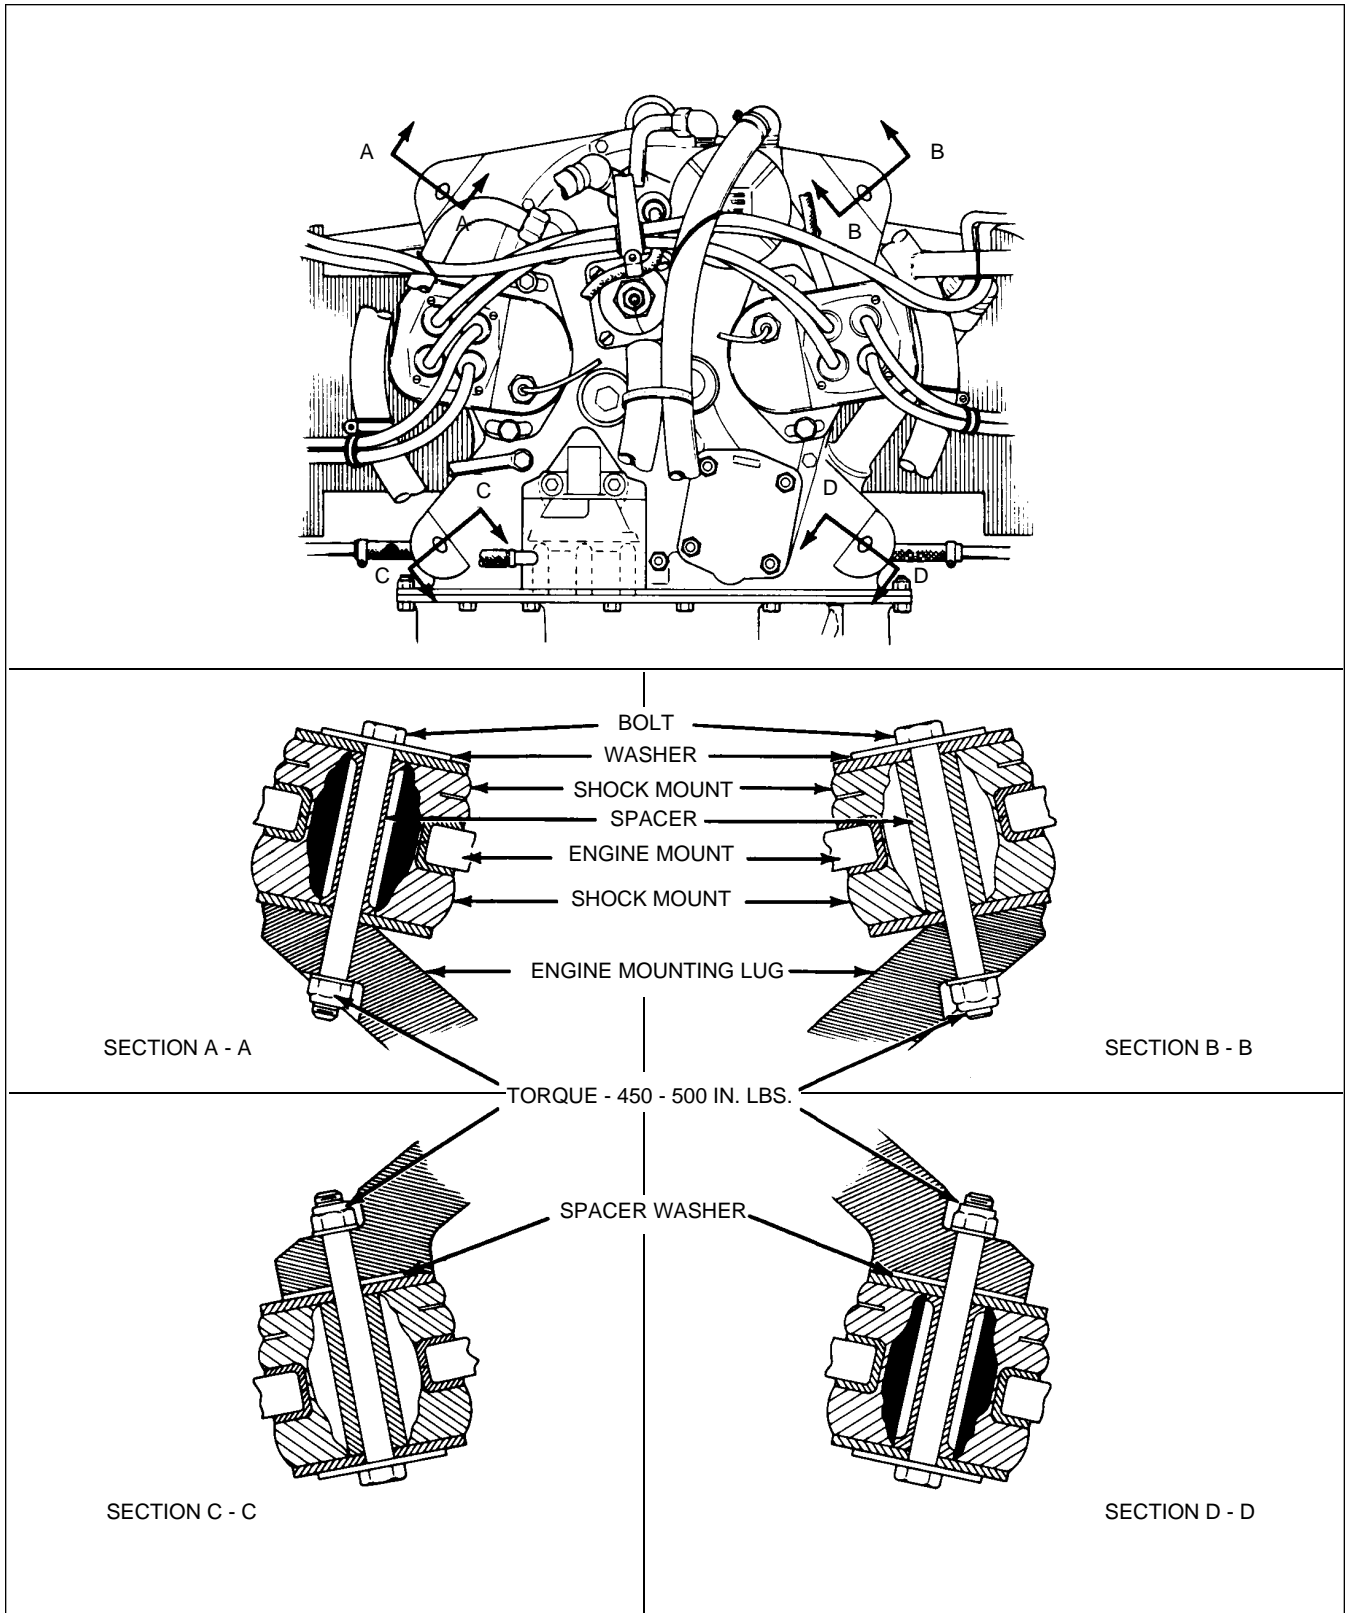

Figure 8-4 Engine Shock Mount Installation
- c. Assemble the engine shock mounts as shown in Figure 8-4. Note the position of each mount carefully. The upper right and lower left mounts are installed the same. The upper left and lower right are installed the same.
8-13. INSTALLATION OF ENGINE SHOCK MOUNTS. (Refer to Figure 8-4.)
- a. Assemble the engine shock mounts on the engine mount as shown in Figure 8-4. Note the position of each mount carefully. The upper right and lower left mounts are the same, as are the upper left and lower right.